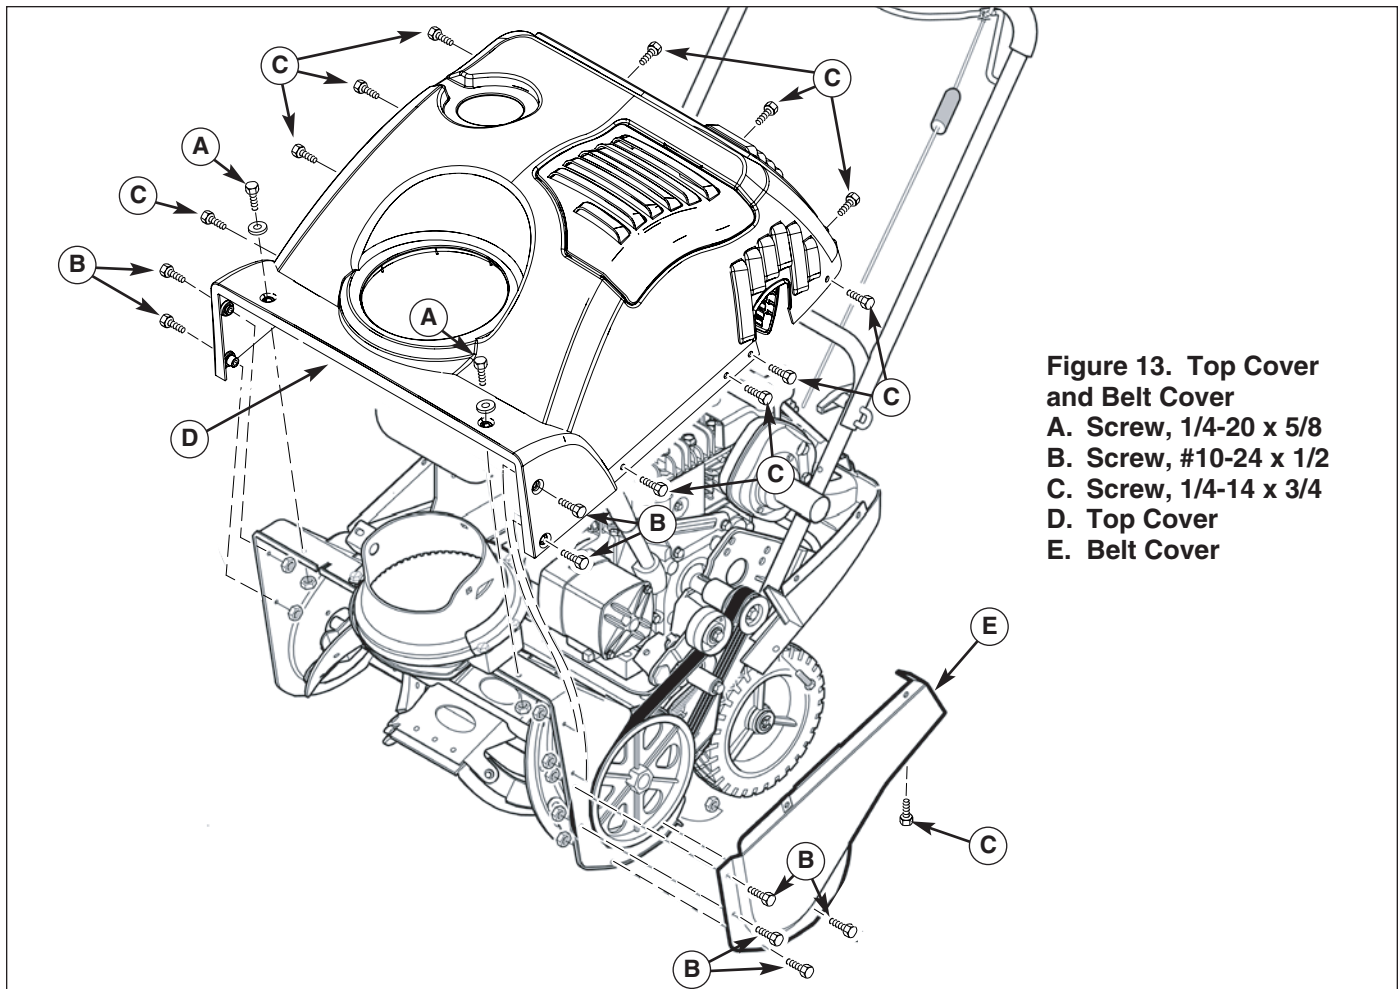

Figure 13. Top Cover and Belt Cover
3. Remove the screws (A, Figure 13) and nuts from the front of the top cover (D).
4. Remove the screws (B) and nuts from the left and right side of the top cover (D).
5. Remove the eight screws (C) on the left and right side of the top cover (D).
6. Remove the five screws (C) from the back portion of the control panel.
8. Installation of top cover (D) is reverse of removal.
1. Remove the screws (B, Figure 13) and nuts that hold the belt cover (E) to the auger housing.
2. If the top cover (D) has not been removed, then remove the screws (C) that attach the belt cover to the top cover.
3. Remove screw (C) that holds the belt cover (E) to the top cover (D).
4. To remove, hold the bottom portion of the belt cover (E) and pull down and out.
5. Installation of belt cover (E) is reverse of removal.